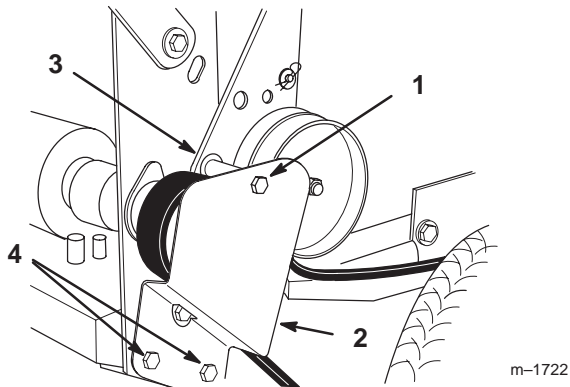

Figure 35
2. Remove top capscrew securing idler support and idler bracket to rear frame (Fig. 35).
3. Loosen bottom two mounting screws enough to allow belt to pass between drive pulley and idler support (Fig. 35).